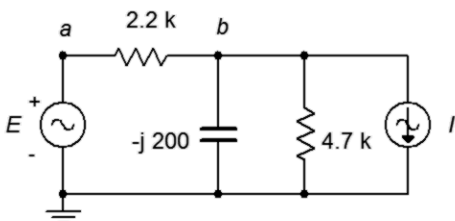

Figure 6.12
23. Use mesh analysis to find the current through the $2.2\text{ k}\Omega$ resistor in the circuit in Figure 6.12. $E = 3.3\angle 0^\circ$, $I = 2.1\text{E}-3\angle 0^\circ$.
24. Given the circuit in Figure 6.12, use mesh analysis to determine v_b . $E = 10\angle 0^\circ$, $I = 30\text{E}-3\angle 90^\circ$.